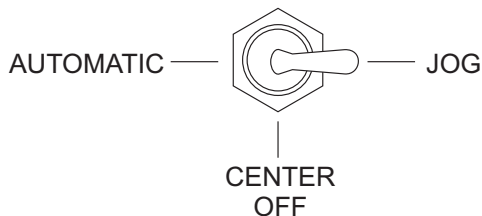

Figure 57. Cylinder Stroke Control Switch (JOG)
- To determine the pressure of the hydraulic system, set the **cylinder stroke control switch** (Figure 57) to the **JOG** position.